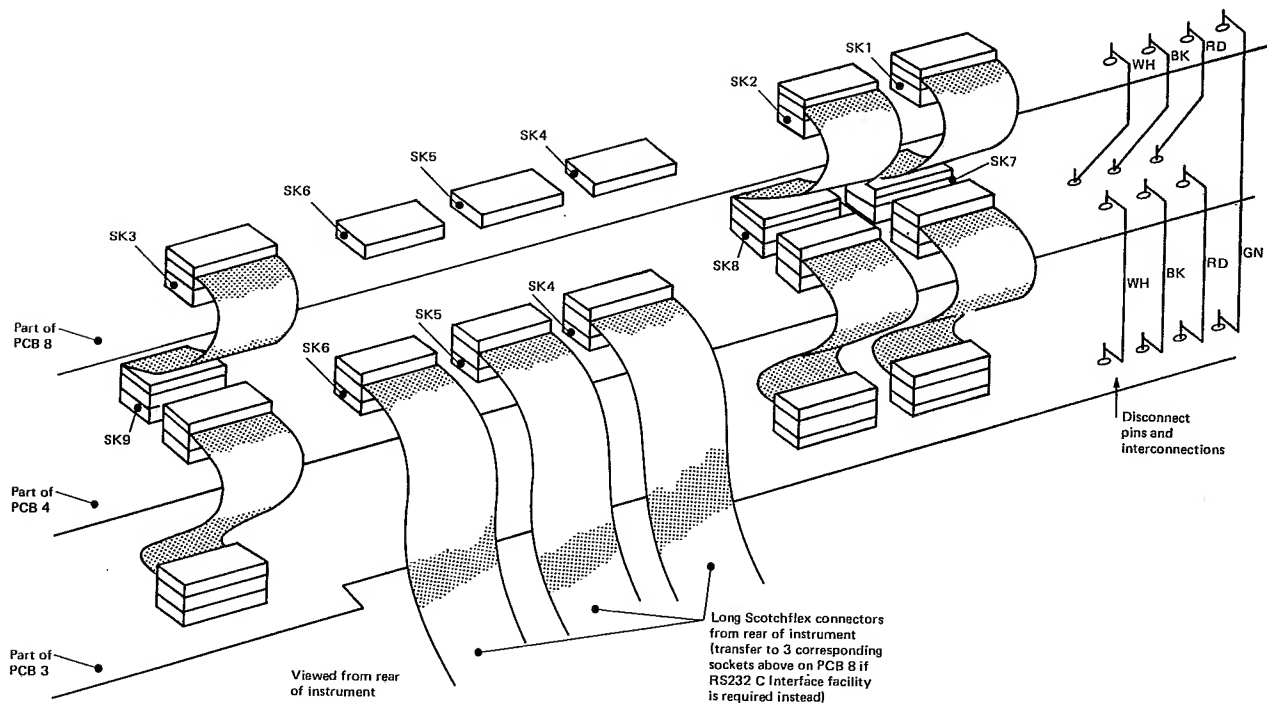

*Fig. 3 Fitting the long Scotchflex connectors*
6. Fit the 3 long Scotchflex connectors to the 3 sockets in pcb at rear of the instrument (Fig. 3) unless these are already fitted with pcb 4. The connectors should pass underneath the instrument and up through the slot provided in pcb 3.